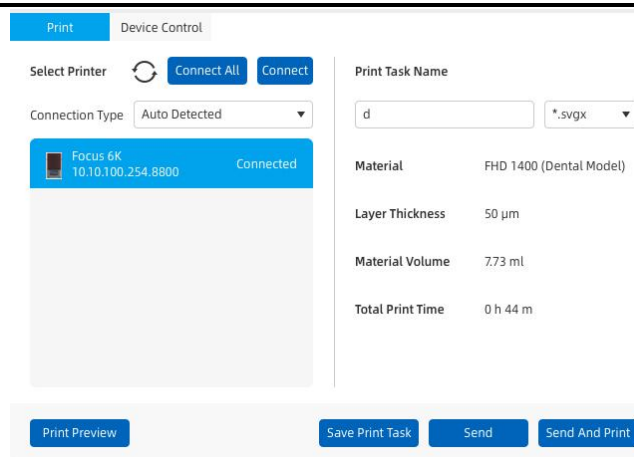

Figure 27 Interface diagram of successful connection
- d. Click [Connect], the connected machine and ITS IP address appear under the connection mode, as shown in Figure 27, indicating that the machine has been successfully connected.